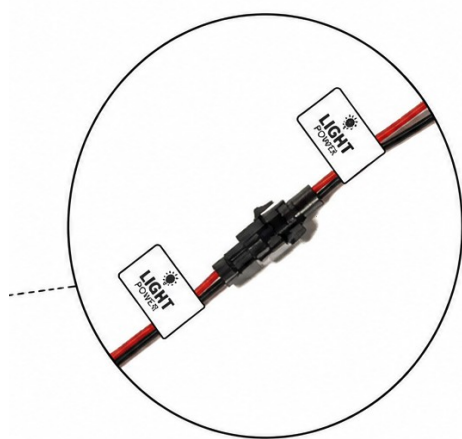

Figure 12 (detail, repeated). Bench lighting connector on the Left Panel (A) side.
This step shares Figure 12; the connector detail is repeated below.
- Locate the bench lighting cable from the Lower Bench and its matching connector on the Left Panel (A), shown in the inset of Figure 12.